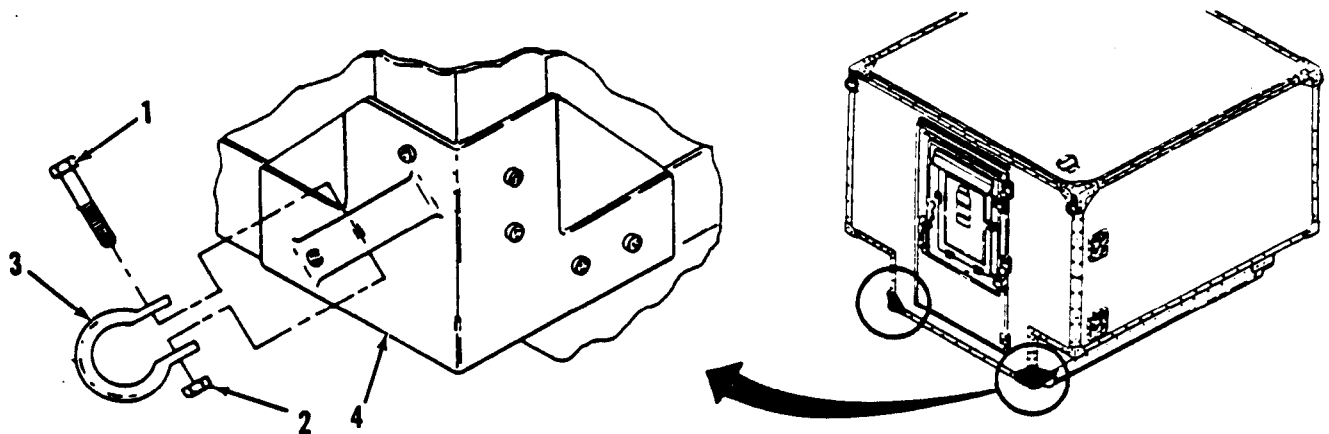

Figure 3-37. Towing Bracket Assembly Repair.
a. Inspect. (Figure 3-37)
- (1) Inspect for free movement and secure mounting.
- (2) Inspect for cracks or other external damage.
b. Repair. (Figure 3-37)
- (1) Remove bolt (1) and nut (2) attaching towing eye (3) to bracket (4) and remove from bracket.
- (2) Align mounting holes of new towing eye (3) with holes on bracket (4) and secure to bracket with bolt (1) and nut (2).